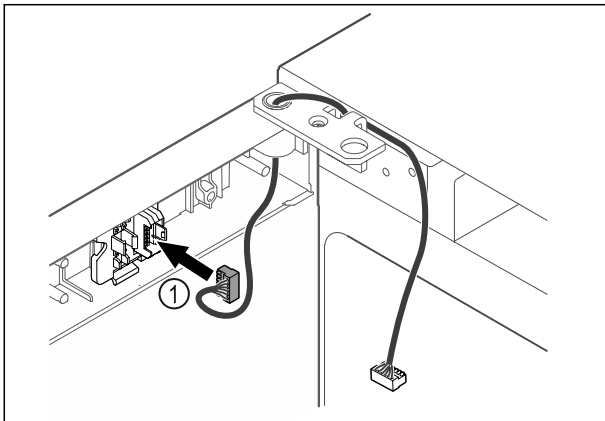

Fig. 44
- Put the plug Fig. 44 (1) in the plug holder.